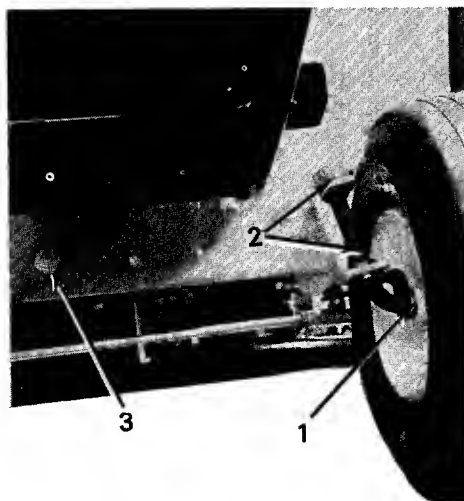

FIGURE 16.
1. **Wheel Bearings (4).** Lubricate with SAE 30 oil after every 25 hours of operation or once a season. (See figure 16.)
2. **King Pins (2).** Lubricate with SAE 30 oil after every 25 hours of operation or once a season. (See figure 16.)
3. **Front Pivot Bolt (1).** Lubricate with SAE 30 oil after every 25 hours of operation or once a season. (See figure 16.)